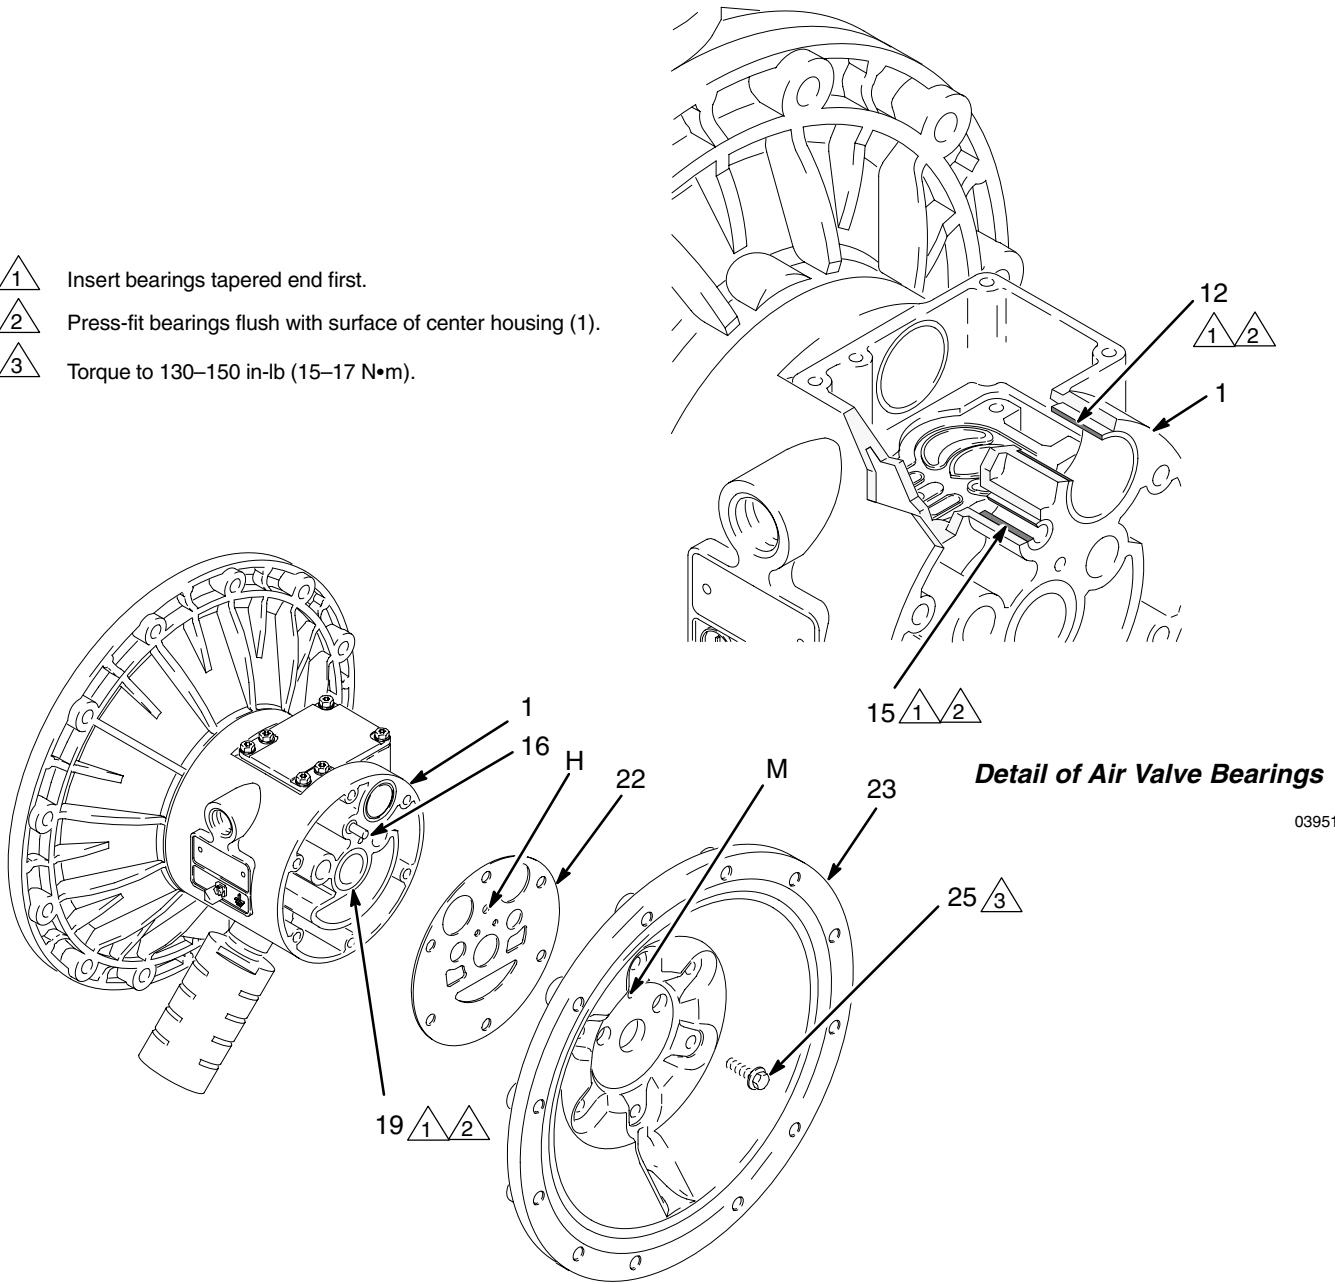

Fig. 14
5. Using a 10 mm socket wrench, remove the screws (25) holding the air covers (23) to the center housing (1). See Fig. 14.
6. Remove the air cover gaskets (22). Always replace the gaskets with new ones.
7. Use a bearing puller to remove the diaphragm shaft bearings (19), air valve bearings (12) or pilot pin bearings (15). Do not remove undamaged bearings.
1. If removed, install the shaft u-cup packings (402\*) so the lips face **out** of the housing (1).
2. The bearings (19, 12, and 15) are tapered and can only be installed one way. Insert the bearings into the center housing (1), **tapered end first**. Using a press or a block and rubber mallet, press-fit the bearing so it is flush with the surface of the center housing.
4. Align the new air cover gasket (22) so the pilot pin (16) protruding from the center housing (1) fits through the proper hole (H) in the gasket.
5. Align the air cover (23) so the pilot pin (16) fits in the middle hole (M) of the three small holes near the center of the cover. Install the screws (25), handtight. See Fig. 14. Using a 10 mm socket wrench, torque the screws oppositely and evenly to 130–150 in-lb (15–17 N•m).